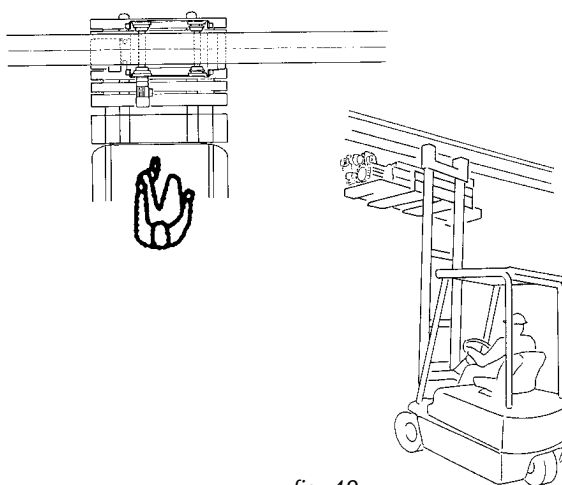

fig. 49
5. Carry out the picking up and handling of the pallet using a forklift truck or other suitable means, positioning the pallet in such a way that the vertical axis of the girder is perpendicular to that of the hoist and the horizontal axes of both are parallel (fig. 49).